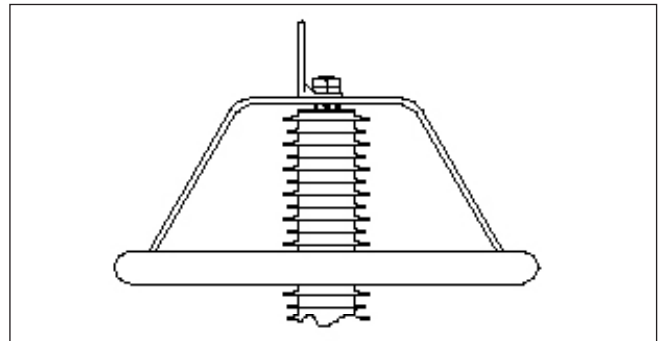
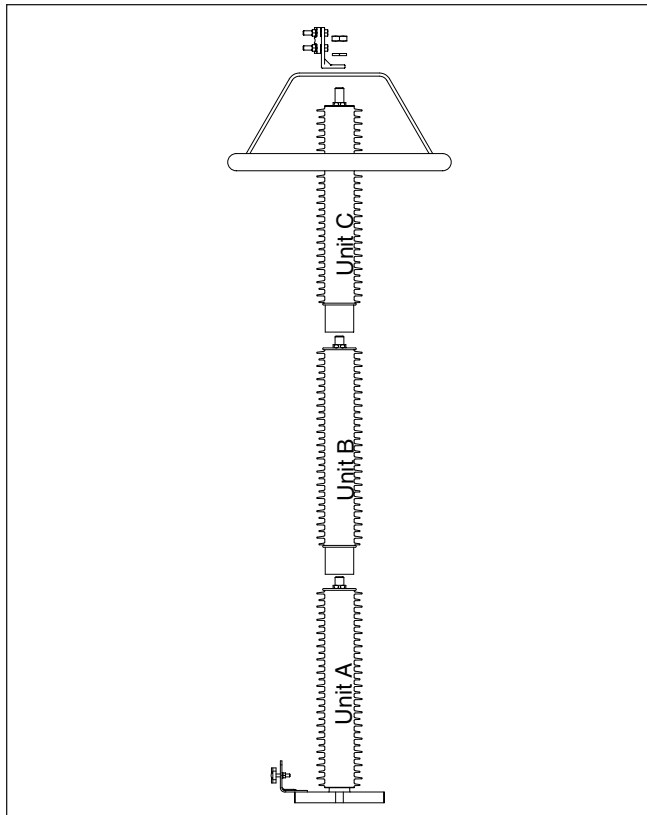

Figure 4. Detail of Grading Ring Placement.
Figure 5. Example of Arrester Assembly.
Arresters with housing codes greater than 60 will be supplied with a grading ring. When a grading ring is supplied, it must be placed on the arrester to guarantee correct operating performance. Refer to Figure 4 for correct placement of the grading ring.
Multi-unit arresters must be erected with the units in the correct order as shown in Figure 5. All units in a multi-unit arrester have the same serial number and are marked with the appropriate unit number. Refer to the unit nameplate on the base of the arrester for the correct placement order.
Apply the threadlocking sealant (supplied) on to the top stud of each unit except the top unit. Attach and secure additional units (as supplied) onto previous units until tight as shown in Figure 5.
Position the supplied grading ring onto the top unit as shown in Figure 4. Next, situate the line terminal connector followed by the supplied lock washer and nut as shown in Figure 5. Secure until tight.
1. Refer to Figure 4 for illustrations of dimensions B and C and Figure 5 for dimensions A and D.